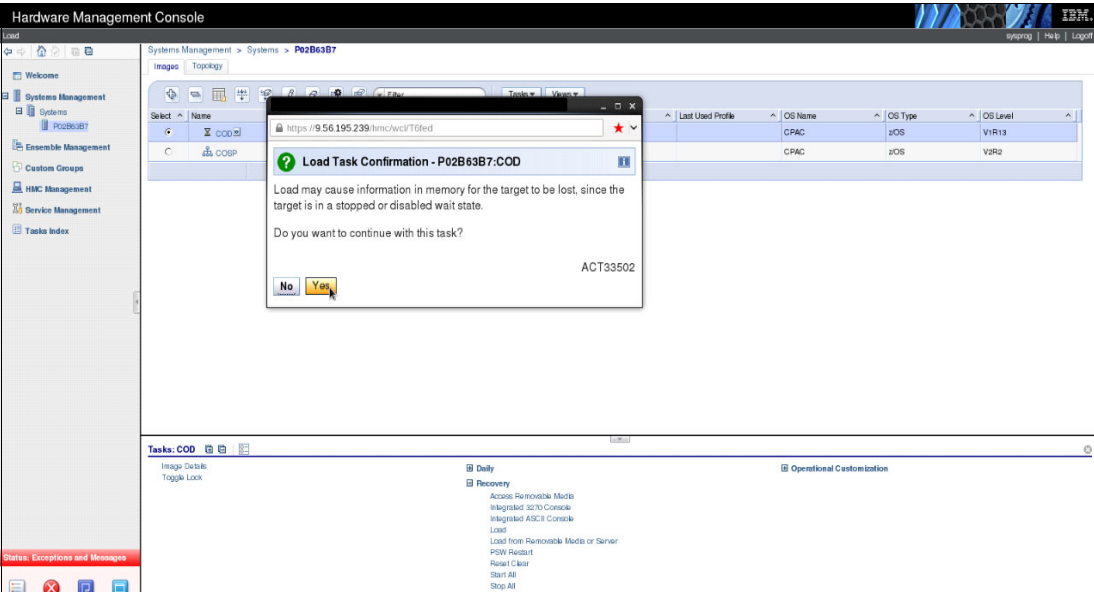

Figure 9-5 Load confirmation window
5. A confirmation window opens, as shown in Figure 9-5. We select **Yes** to continue.